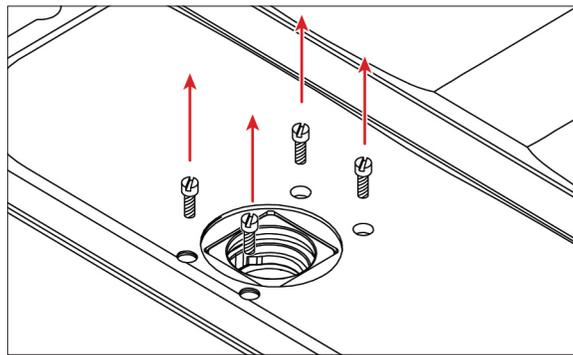
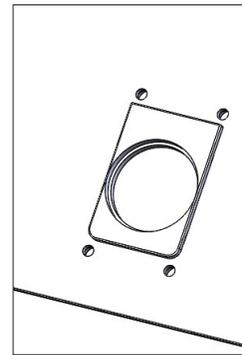

Fig. 5
Fig. 6
6. Using a straightblade screwdriver, remove the four screws that hold the air inlet assembly on the bottom of the AirShuttle (Fig. 5). Remove air inlet assembly. If the air inlet plate (Fig. 6) comes free from the AirShuttle when removing the air inlet assembly, separate the inlet plate from the removed air inlet assembly and re-insert it into the AirShuttle as shown.